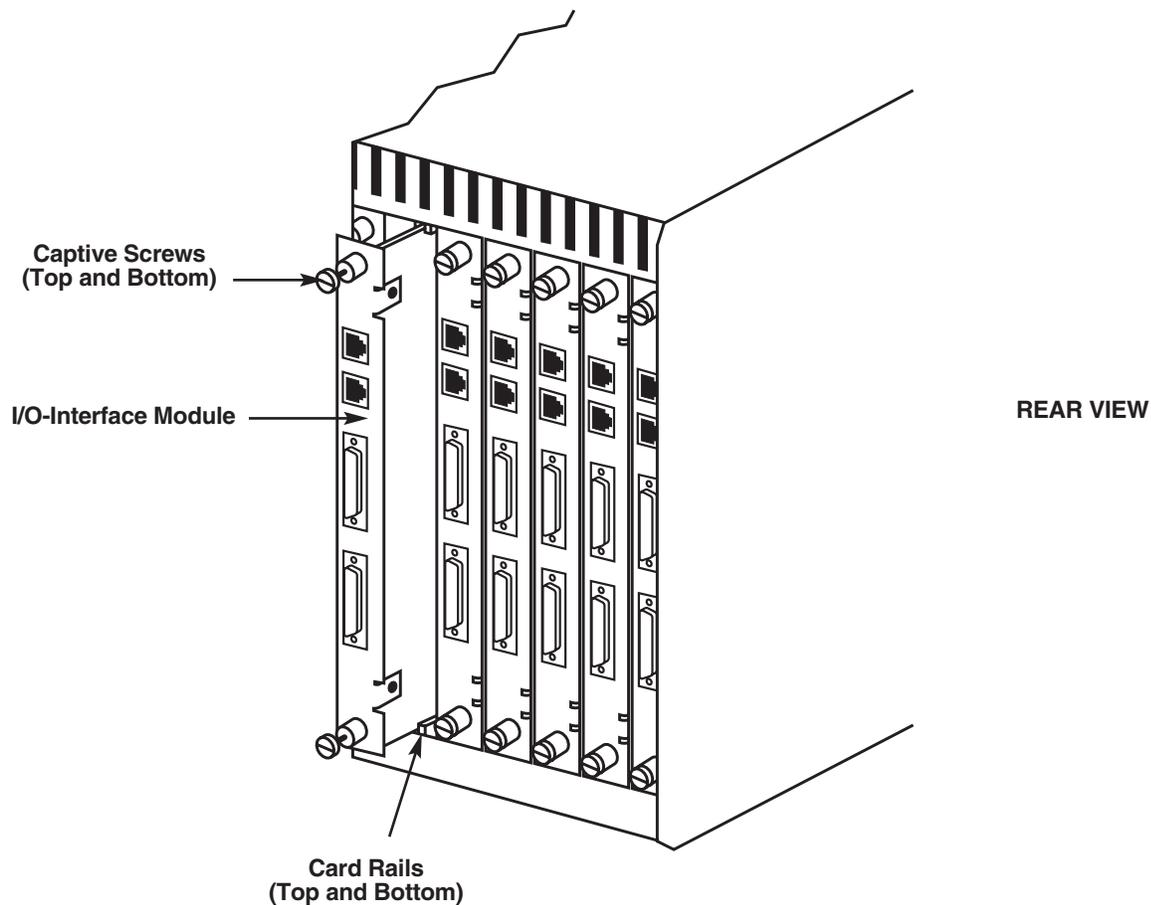

Figure 3-5. Reseating an I/O-Interface Module.
1. Unscrew the top and bottom captive screws securing the I/O-Interface Module to the chassis. See Figure 3-5.
4. Hand-tighten the top and bottom captive screws. These screws secure the I/O-Interface Module to the chassis. See Figure 3-5.